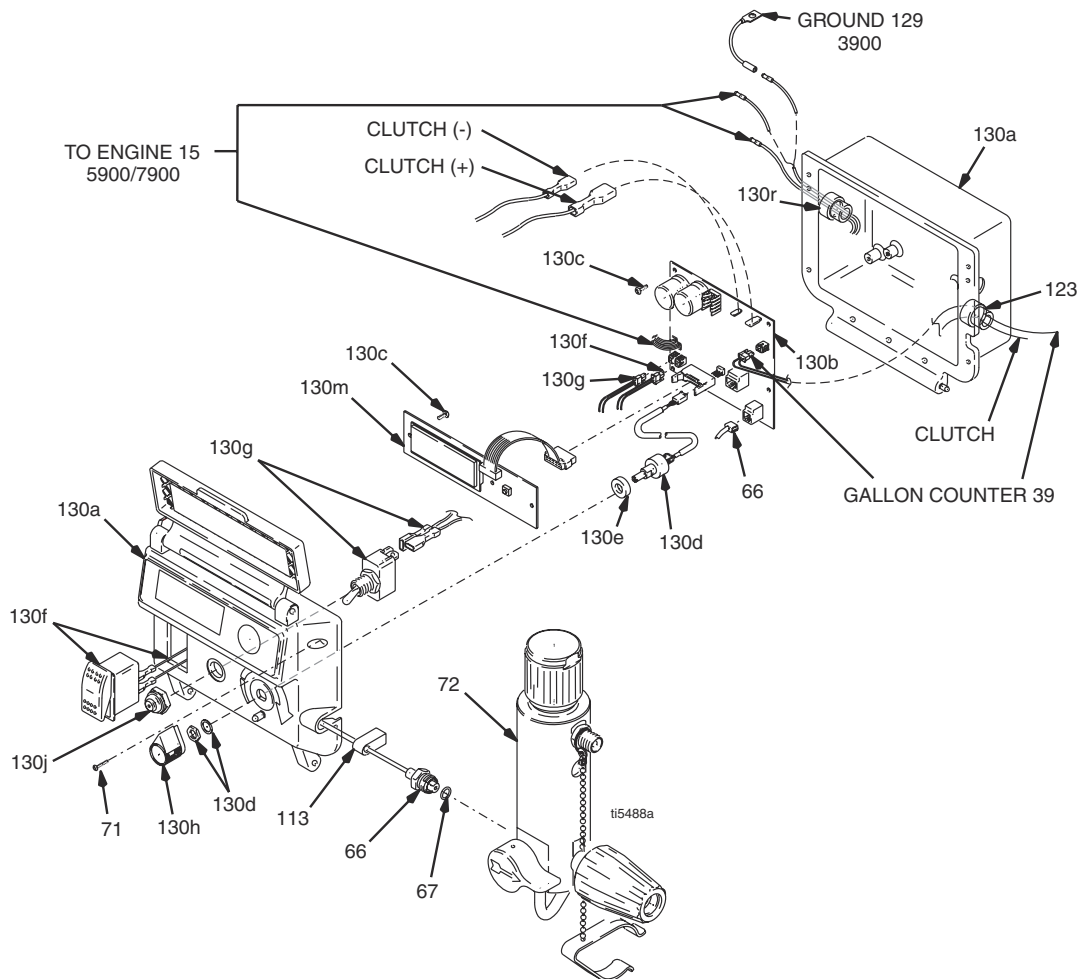

FIG. 14
- a. FIG. 14. Remove two screws (71) and swing down cover (130a).
- FIG. 14. Connect clutch cable connectors to inside of pressure control.
1. FIG. 14. Remove two screws (71) and swing down cover (130a).
1. FIG. 14. Remove two screws (71) and swing down cover (130a)
- Lead from transducer (66)
- Lead from gallon counter sensor (39)
1. FIG. 14. Install control board (130b) with four screws (130c).
2. Disconnect transducer (66) lead from control board (130b).
3. Pull transducer connector through rubber grommet (113).
4. Remove pressure control transducer (66) and o-ring (67) from filter housing (72).
1. FIG. 14. Install o-ring (67) and pressure control transducer (66) in filter housing (72). Torque to 35 - 45 ft-lb.
3. Connect transducer (66) lead to control board (130b).
4. Swing up cover (130a) and secure with two screws (71).
2. FIG. 14. Install potentiometer, shaft nut, lock washer and potentiometer knob (130h).